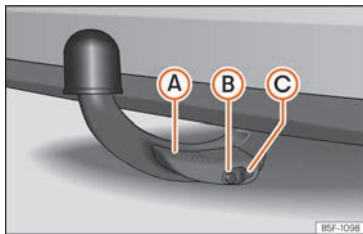

Fig. 256 Tow hook fixed correctly
- Lever (A) is facing upwards » **Fig. 256**.
- The red and green part of the unlocking bolt (B) is completely visible » **Fig. 256**.
- Cover (C) is over the lock » **Fig. 256**.
- Keep your hands away from the lever when releasing the tow hook to avoid trapping your fingers » **Fig. 256 (A)**.